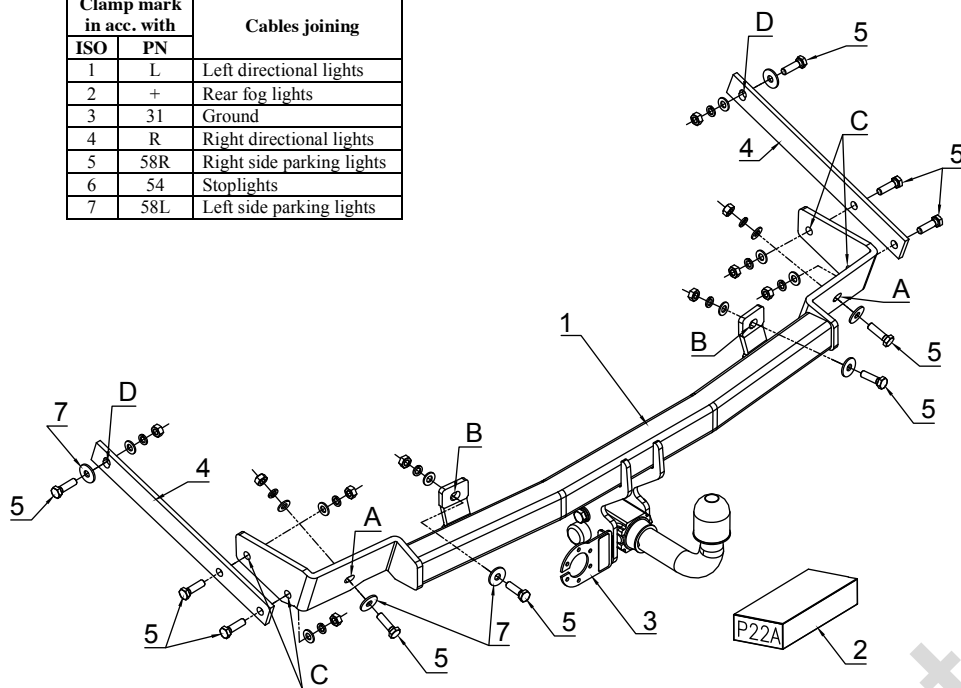

Fig. 1
2. Put main bar of the towbar (pos. 1) to rear part of the car and through existing holes and holes in the towbar (pos. A and B) fix it using bolts M10x35mm (pos. 5), use washers (pos. 7) as showed in the fig.1. Fix loosely.
3. Fix elements (pos. 4) through holes (pos. C) using bolts M10x35mm, next through holes (pos. D) in element (pos. 5) fix to original holes in the car using bolts M10x35mm and washers (pos. 7) (as showed in the drawing).